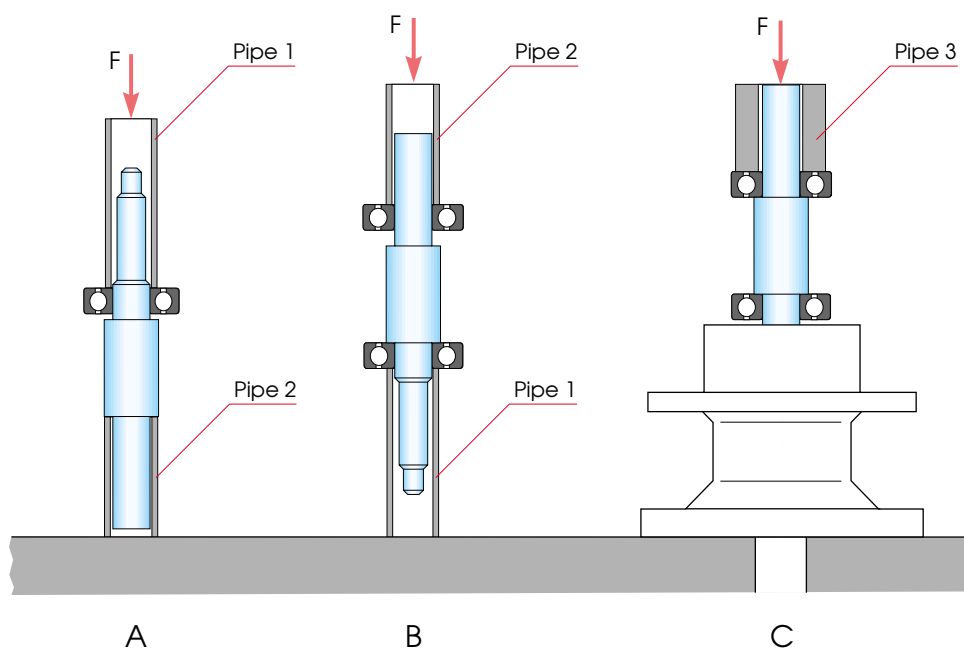

Fig 19-3
- 6 Loosen the bearing retainer** (16) and the slinger.
- 7 Remove the locking screws (26)** and mount three hexagon screws into the holes. Tighten the screws until the bearings come loose from the housing. Remove the shaft and bearings.
- 8** Check the seal (12) and the bearings for wear and damage, see pos. d) below.
- 10** Press the new bearing (13) by its inner ring with a suitable pipe.
- 12** Turn the shaft according to Fig 19-3.
- 14** Press the bearing (15) by its inner ring with a suitable pipe. See Fig 19-3.
- 15** Turn the bearing housing according to Fig 19-3 and oil the outer surfaces of the bearings. Press the shaft into the housing by both the inner and outer ring of the bearing (15) with a suitable pipe.